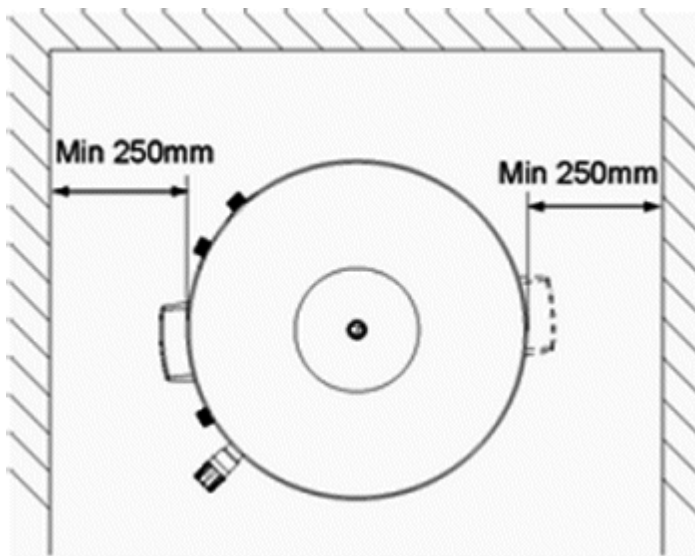

Fig. 1: Siting the Unit
- Access to associated controls and immersion heaters must be available to provide for the servicing and maintenance of the system. Where these controls are installed against a wall a minimum **250mm** distance of must be left (see Fig. 1).